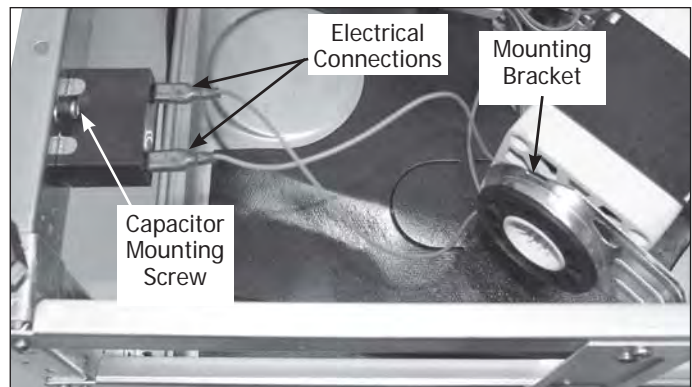

Figure 4-29.
9. Disconnect the wire leads from the capacitor terminals. Terminals have locks, press down on lock to remove terminal. (See Figure 4-29)
3. Disconnect the wire leads from the capacitor terminals. Terminals have locks, press down on lock to remove terminal. (See Figure 4-29)